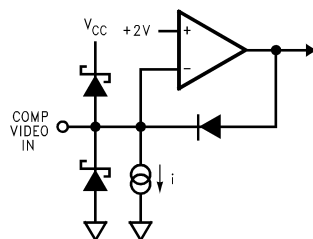

FIGURE 7.
**Pin 9 — COMP VIDEO IN:** The composite video sync stripper is active only when no signal is present at pin 12 (H/HV IN). The signal to pin 9 must have negative-going sync tips which are at least 0.14V below black level. For best noise immunity, a resistor of 2 k $\Omega$  or less should be connected from the input side of the coupling cap to pin 21 (GND) via a short path. See Figure 7 for the input schematic.